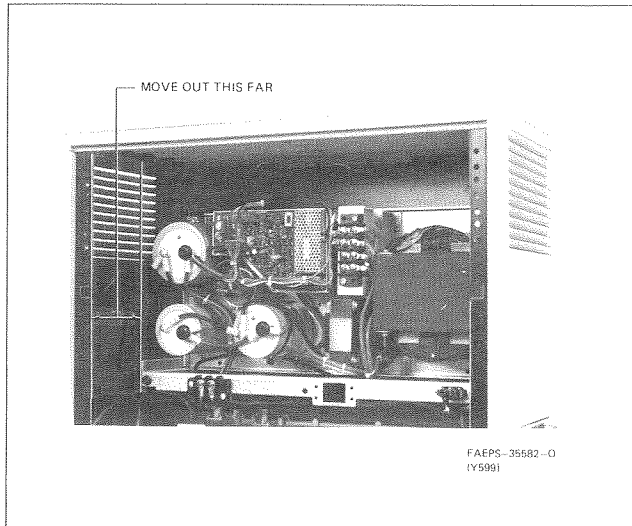

Figure 3. Power Supply Chassis Travel Distance
Step 3. Slide power supply chassis forward until chassis is flush with cabinet, as shown in Figure 3.